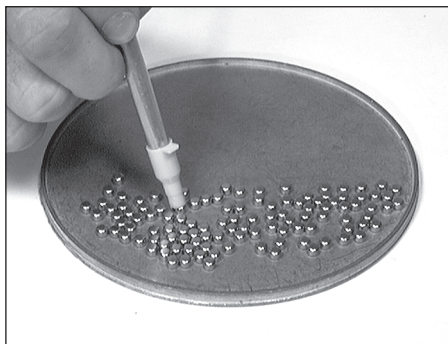

FIG 151
6. **FIG 151** Collect the primers using the